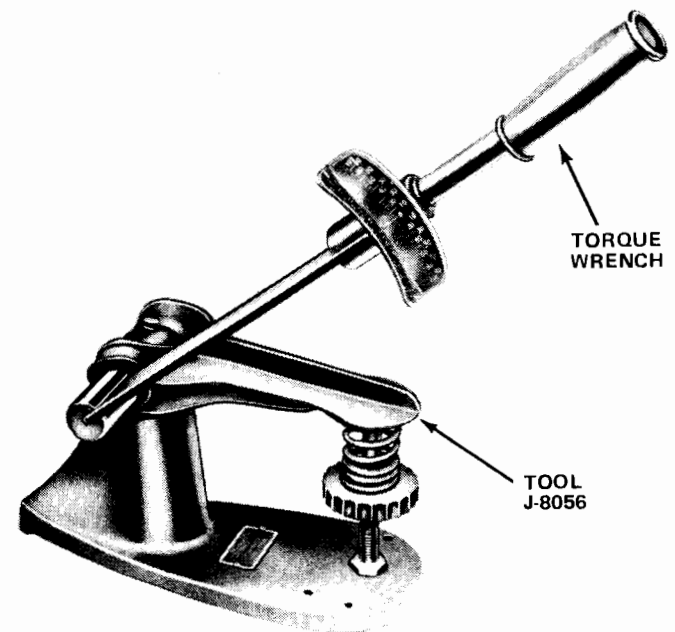

Fig. 1A-10 Valve Spring Removal
- (7) Use Valve Spring Remover and Installer Tools J-22534-1, J-22534-4, and J-22534-5 to compress valve spring and remove valve locks. (fig. 1A-10).
- (8) Remove valve spring and retainer or rotator.